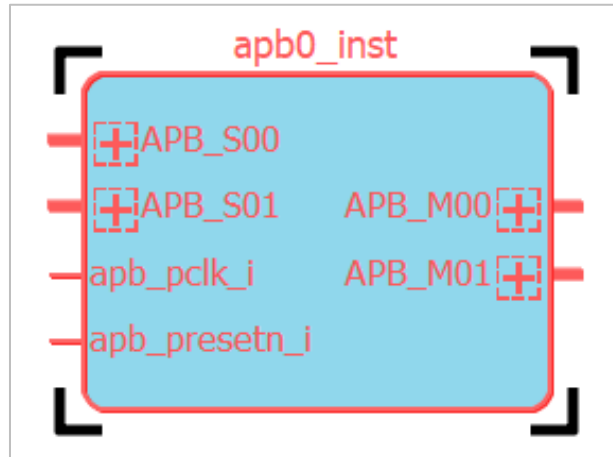

Figure 2.72. Select Module
1. Select the desired module block. The block is highlighted in red with black corners (Figure 2.72).